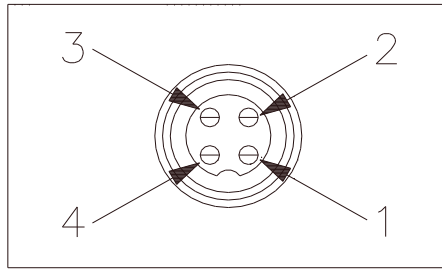

Fig. 3 Microphone plug pin numbers viewed from rear of pin receptacle.
5. The wires must now be soldered to the pins as indicated in the above wiring tables. If a vise or clamping tool is available, it should be used to hold the pin receptacle body during the soldering operation, so that both hands are free to perform the soldering. If a vise or clamping tool is not available, the pin receptacle body can be held in a stationary position by inserting it into the microphone jack on the front panel. The numbers of the microphone plug are shown in Fig. 3, as viewed from the back of the plug. Before soldering the wire to the pins, pre-tin the wire receptacle of each pin of the plug.